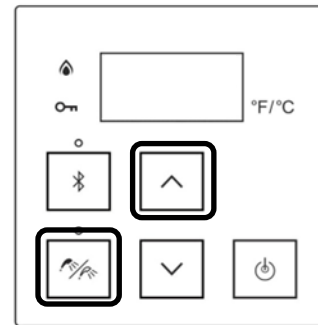

Figure 74
1. To lock the integrated controller, press and hold down the "Priority" button (Figure 74).
2. While holding down the "Priority" button, press the up arrow button (Figure 74) until a beep is heard (approximately 5 seconds). Then, release both buttons at the same time.